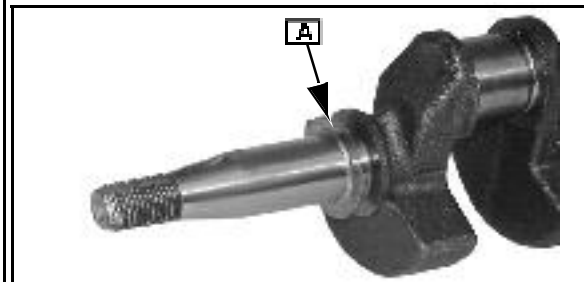
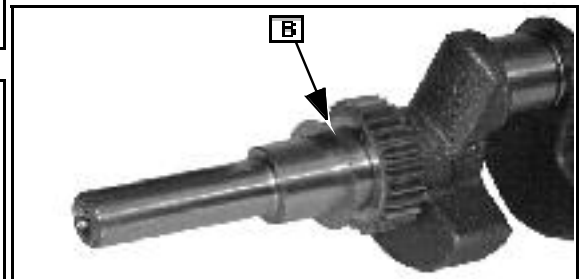

Fig. 43
Fig. 44
- Use Part #220624 shim on magneto end of crankshaft ([A] Fig. 43 non-pump applications) or on PTO end of crankshaft ([B] Fig. 44 pump applications).